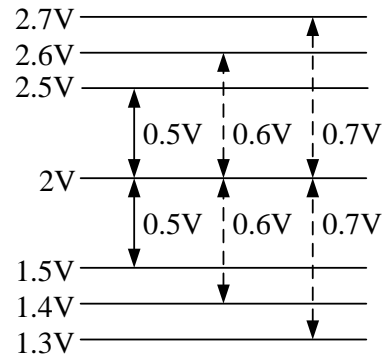
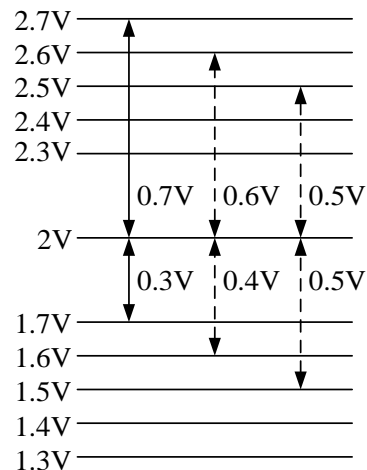

Figure 28. Adjust W2 or W4
Figure 29. Adjust W3 or W5
3. Set output voltage limit. Adjust the potentiometer W4 to set the voltage limit. TP VLIM is the test point for W4. After the VLM is tuned properly, adjust W5 to achieve different voltage limit for heating and cooling. TP VLIMO is the test point for W5. As is shown in Figure 28 and Figure 29.
ILIMO is the test point for W3. As is shown in Figure 28 and Figure 29.